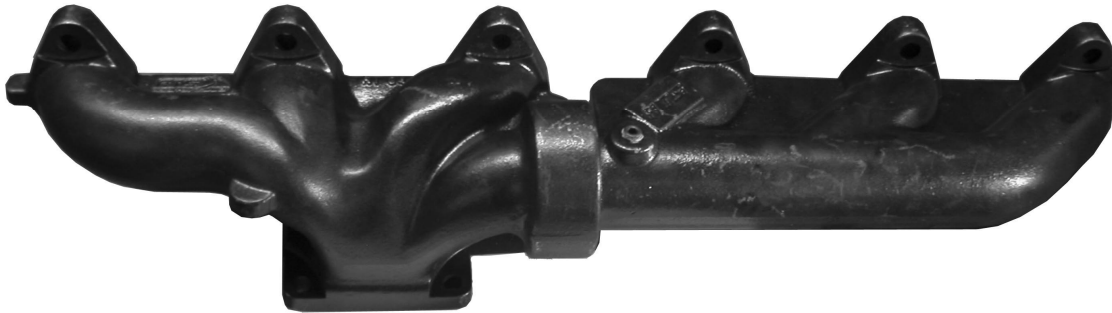

Figure 1 - Dodge 2-Piece Exhaust Manifold
9. Torque bolts to **32 ft-lbs** in a clockwise pattern from the center out (as shown in Figure 1). Re-torque the four center bolts to **32 ft-lbs**.